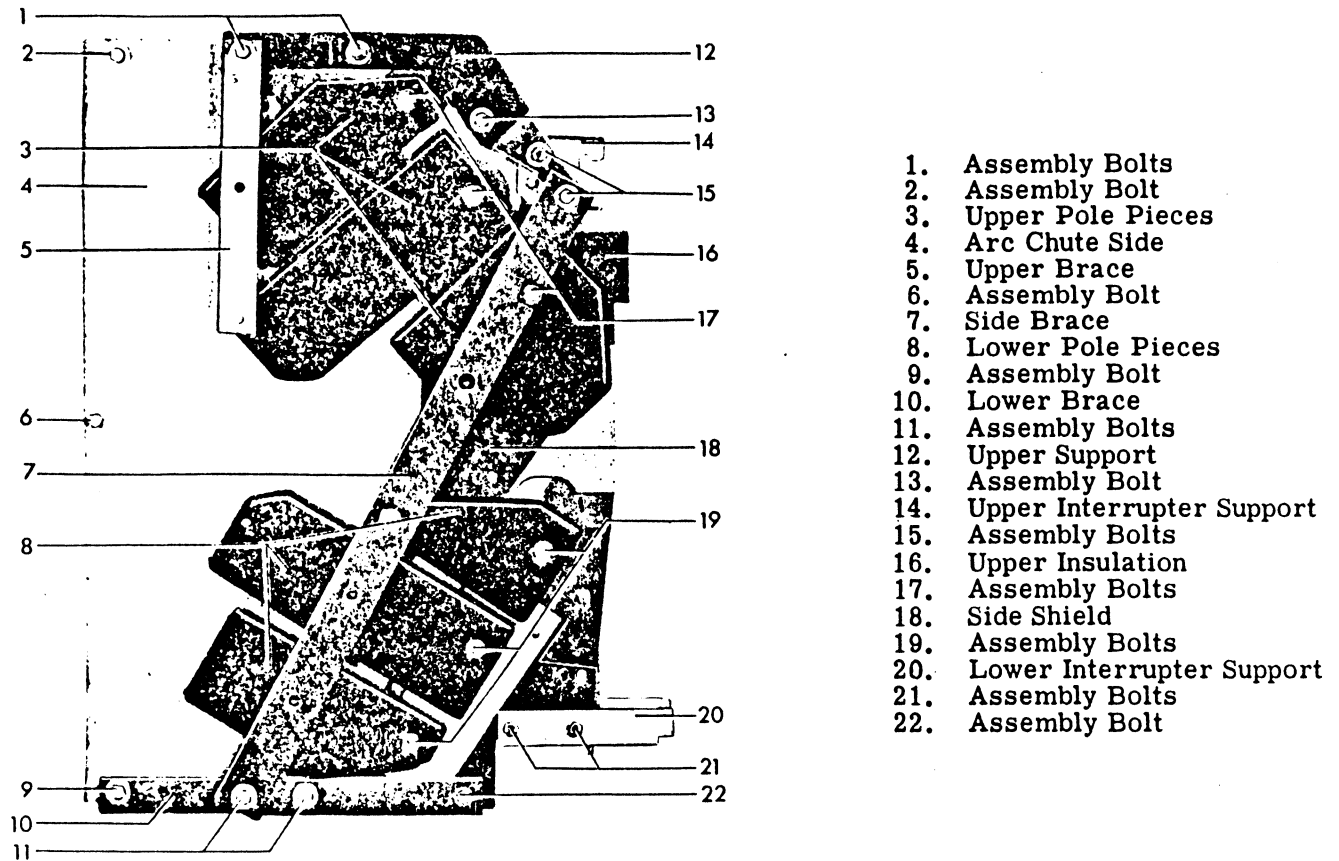
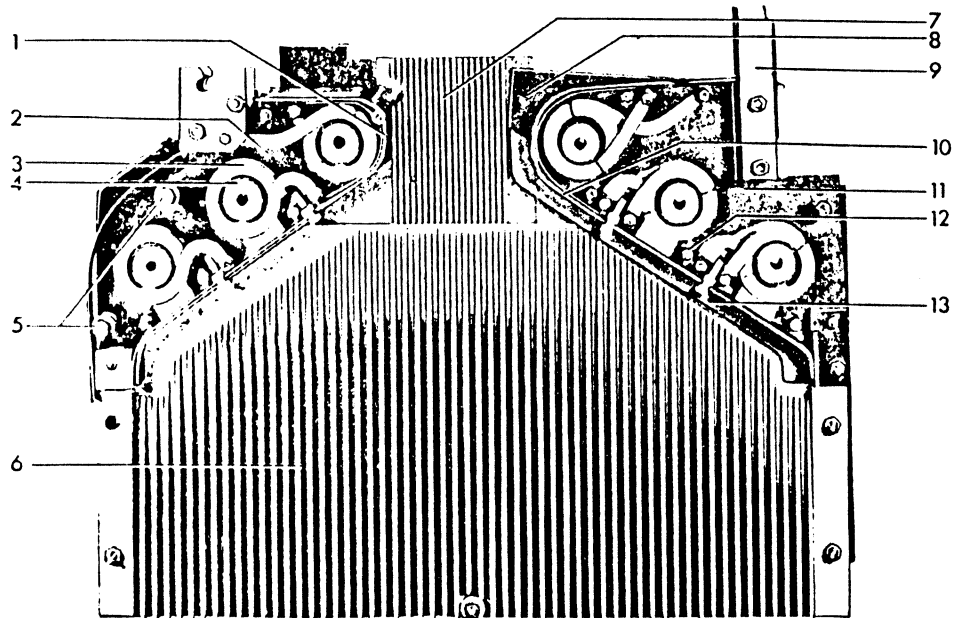
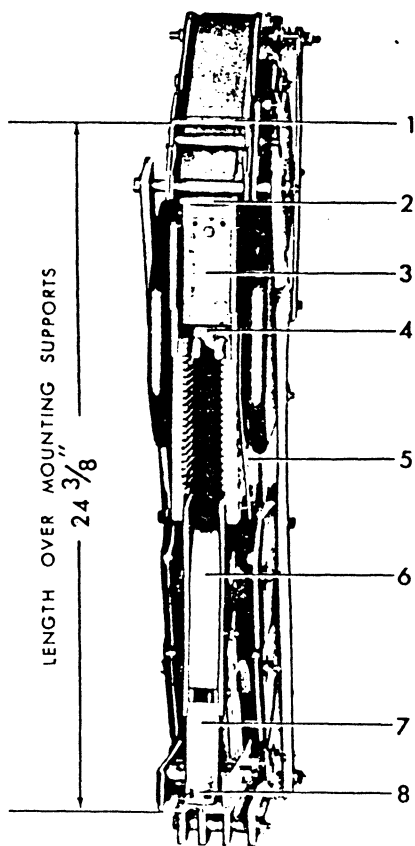

Figure 18. (8041414) Interrupter Assembly
Figure 19. (8041415) Interrupter Assembly With Side Removed
Figure 20. (8041413) Interrupter Assembly
To reassemble the interrupter to the breaker, rest the lower interrupter support (18) on the support bracket (17). Slide the arc chute forward, lifting it slightly to engage the supporting bolts (11) in the slots of the upper interrupter support. Check to assure that the upper insulation (16) Figure 18, is properly positioned within the throat barrier (9) Figure 23.
1. Remove the assembly bolts (2, 6, 9, 11, 15, 17 and 19), Figure 18.
2. Remove the side brace (7) and upper brace (5), the upper pole pieces (3), the lower pole pieces (8).
3. To remove the upper supports (12), and upper interrupter support (14) remove the assembly bolts (1 and 13), and the bolted connection between the upper interrupter support and the blow-out coil.
4. Remove the assembly bolt (22) to remove the lower brace (10).
5. Remove the lower interrupter support (20) by removing the assembly bolts (21) Figure 18 and the connection nut (8) Figure 20.
6. At this point, the side shields (5) Figure 20 and the upper arc runner assembly (2) can be removed. The throat coolers (7) Figure 19 are permanently affixed to the side shields.
7. Further disassembly of both the upper and lower arc runner assemblies can be done by removing the various screws and assembly bolts (not illustrated) as shown in Figure 19.
8. The arc chute sides (6) Figure 19, can also be separated for inspection.
4. When reassembling the arc runner assemblies, check that the spacers (5 and 12) Figure 19 are correctly installed.
5. Before bolting the upper supports in place, make certain that the upper arc runner assembly is tight against the arc chute side so that the gap between the upper insulation and the arc chute sides (6) is a minimum. The throat coolers (7) should also be assembled tightly against the arc chute sides.